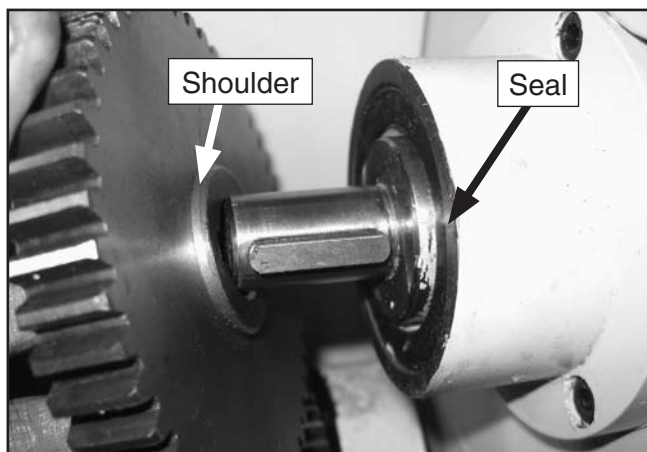

Figure 61. Upper spindle gear positioning.
12. With the shoulder of the 48-toothed gear facing the bearing seal (**Figure 61**), slide the gear back onto the shaft, then install the spacer, spacer washer and cap screw.